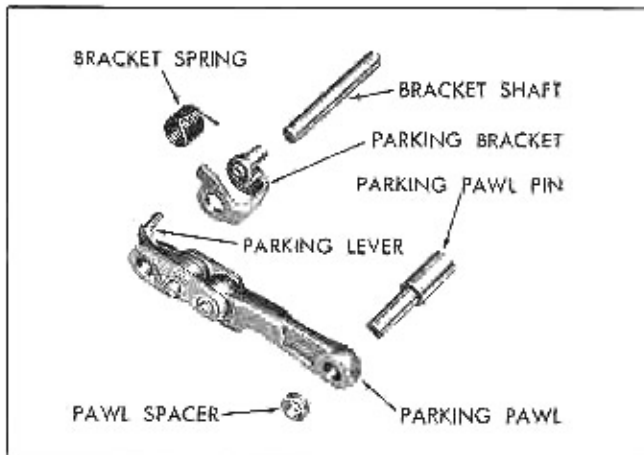

Fig. 94 Parking Brake Assembly—Exploded
2. Lift hook end of bracket spring off parking lever and disassemble parts (Fig. 94).